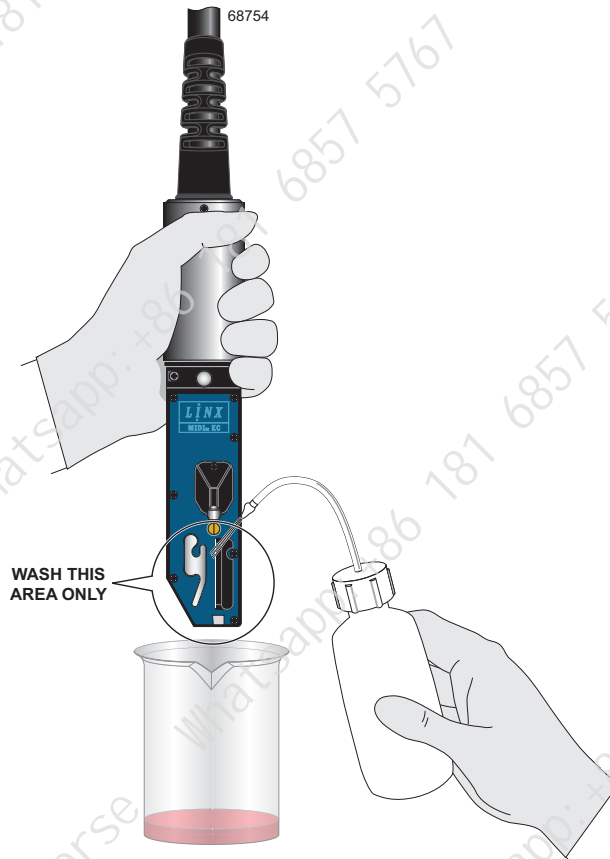
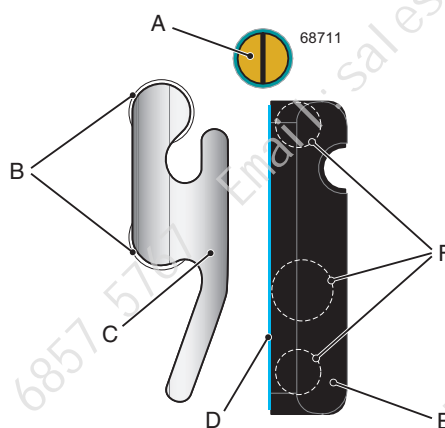

Figure 4. Use solvent to wash the printhead components
Figure 5. MidiEC printhead components
- 3 Mount the printhead on a washstation or hold the printhead over a beaker or suitable container, as shown in Figure 4.
- 4 Carefully apply Linx food grade solvent 6600 to the printhead area shown in Figure 4 to remove the dried ink. Allow the solvent to dissolve after each application. Repeat until most of the ink is removed.
- 5 Use Figure 5 to identify the following printhead components.
- Charge electrode (A)
- EHT plate (C) and mounting pillars (B)
- Deflector and Phase Plate (E) and mounting pillars (F)
- Face plate (D)
- The printed circuit board (PCB) to which these components are attached (the area shown with a circle in Figure 4 on page 8)
- 6 Apply more solvent to the area shown with a circle in Figure 4 on page 8. Before the solvent dries, use a foam swab to carefully remove any ink deposits from the components identified in Figure 5 on page 9, as shown in Figure 6.
- The PCB (in the area shown with a circle in Figure 4 on page 8)